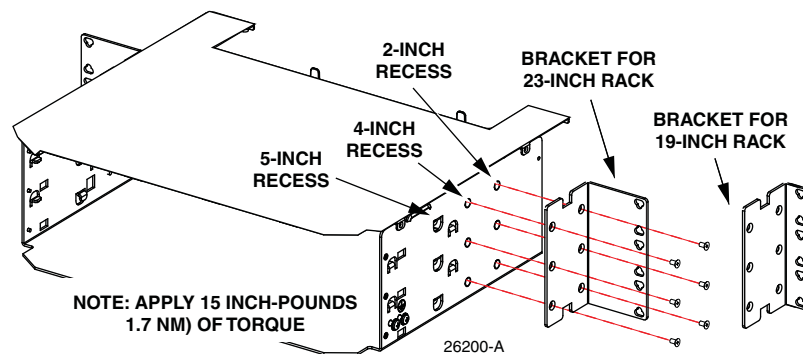

Figure 36. Mounting Bracket Installation (3RU Panel Shell Shown)
3. Determine if the rack or cabinet width is 19 or 23 inches. Also, determine recess required (2, 4, or 5 inches) for mounting the panel. Refer to Figure 36.
4. If the panel is being installed in a 23-inch rack or cabinet in other than the 5-inch recess position, remove the 23-inch mounting brackets and re-install them at the required (2- or 4- inch) recess position. Tighten screws to the torque specification shown in Figure 36.
5. If the panel is being installed in a 19-inch rack or cabinet, remove the 23-inch mounting brackets and install 19-inch brackets at the required recess (2, 4, or 5 inches) position, as shown in Figure 36. Tighten screws to the torque specification shown in Figure 36.